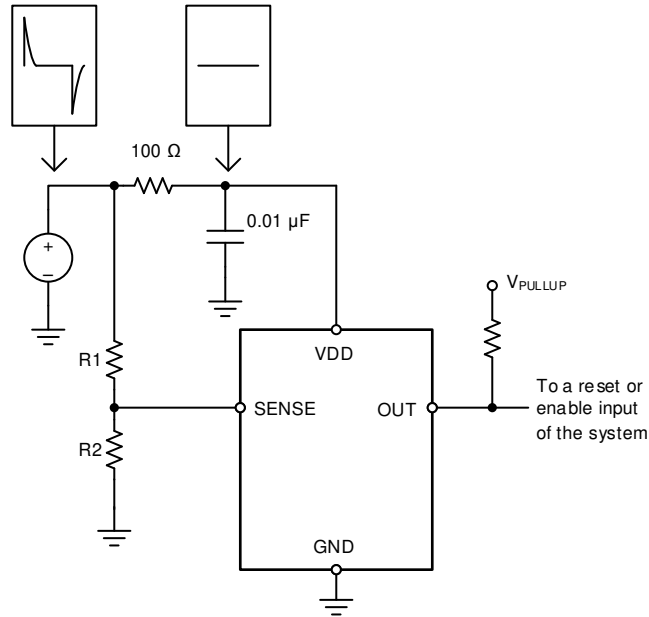

図 7-5. Using an RC Filter to Remove High-Frequency Disturbances on VDD
The TPS3711 has a 40-V absolute maximum rating on the VDD pin, with a recommended maximum operating condition of 36 V. If the voltage supply that provides power to VDD is susceptible to any large voltage transient that may exceed 40 V, or if the supply exhibits high voltage slew rates greater than 1 V/ μ s, then place an RC filter between the supply and VDD to filter any high-frequency transient surges on the VDD pin. In these cases, a 100- Ω resistor and 0.01- μ F capacitor are required, as shown in 図 7-5.
- Avoid using long traces for the VDD supply node. The VDD capacitor (C_{VDD}), along with parasitic inductance from the supply to the capacitor, might form an LC tank and create ringing with peak voltages above the maximum VDD voltage. If long traces are unavoidable, see 図 7-5 for an example of filtering VDD.